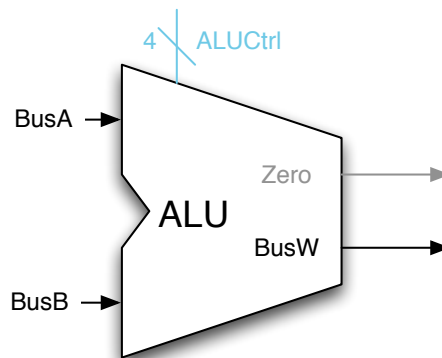

Figure 2: ALU port interface
1. **Design the ALU.** The Arithmetic Logic Unit (ALU) in MIPS is a combinational logic module that produces an arithmetic or logic result from two input operands based on the control signals input to the module. Figure 2 provides the port interface diagram of the ALU you will build in this lab. The two operand buses, BusA and BusB, are each 32-bits wide, while the control bus is 4-bits wide. The outputs from the ALU module include a 32-bit result bus, BusW, and a Zero signal, which is HIGH when the result equals zero. Please note that this ALU does not provide support for arithmetic exceptions; however, we will fix this in later labs. The ALU can be thought of as combination of arithmetic and logic blocks, each sharing the same inputs, such that the outputs of each of the blocks are multiplexed to create the final result. In this illustration, the ALU control signals act as the selection lines of the multiplexer.